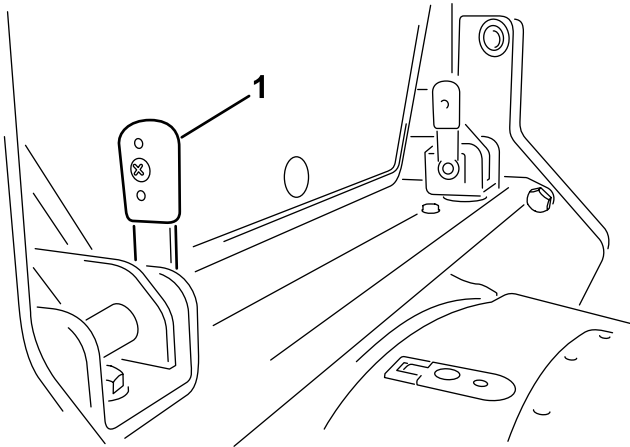

Figure 24
- Align the holes in the cab-frame flange and the holes in the cross-beam bracket (Figure 24).
- Insert the 2 latch pins (Figure 24) through the holes in the cab-frame flanges and cross-beam brackets.